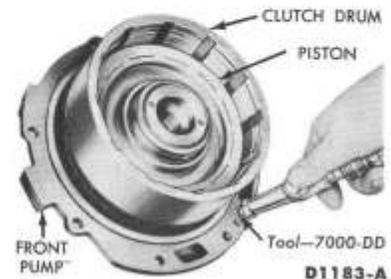

FIG. 12—Clutch Piston Removal
4. Place the clutch drum on the completely assembled stator support shaft and front pump housing (Fig. 12). Apply air pressure at the point shown to force the piston out of the clutch drum.